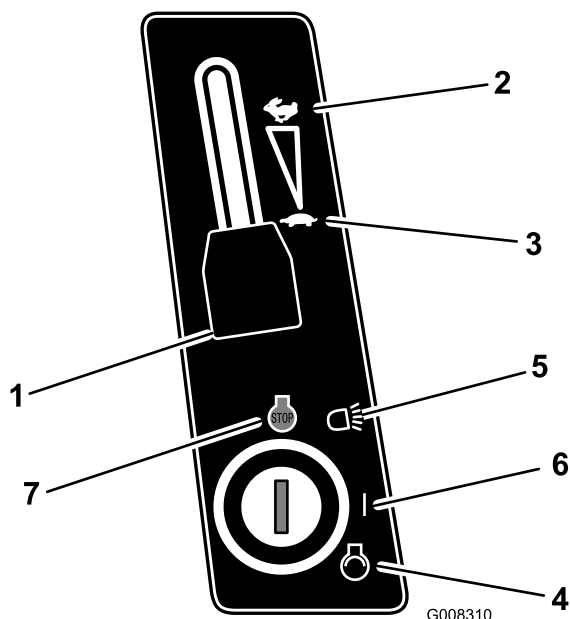

Figure 12
5. When starting a cold engine, shift the throttle control lever to the Choke position (Figure 12).
- Shift the throttle control lever to the Slow position (Figure 12).
- Turn the ignition key clockwise and hold it in the Start position (Figure 12). When the engine starts, release the key.
- After the engine starts, slowly shift the throttle control lever to Fast (Figure 12).
- Move the throttle control lever to Slow (Figure 12).
- Turn the ignition key to Off (Figure 12).